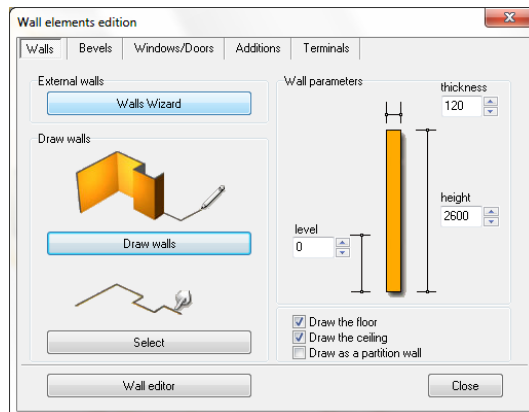

Fig. 72 – Wall elements edition dialog box
This icon opens a dialog box presented below (Fig. 72).
- in the new window (Fig. 72 on page 52) define the thickness and height of the walls and the level of the room;